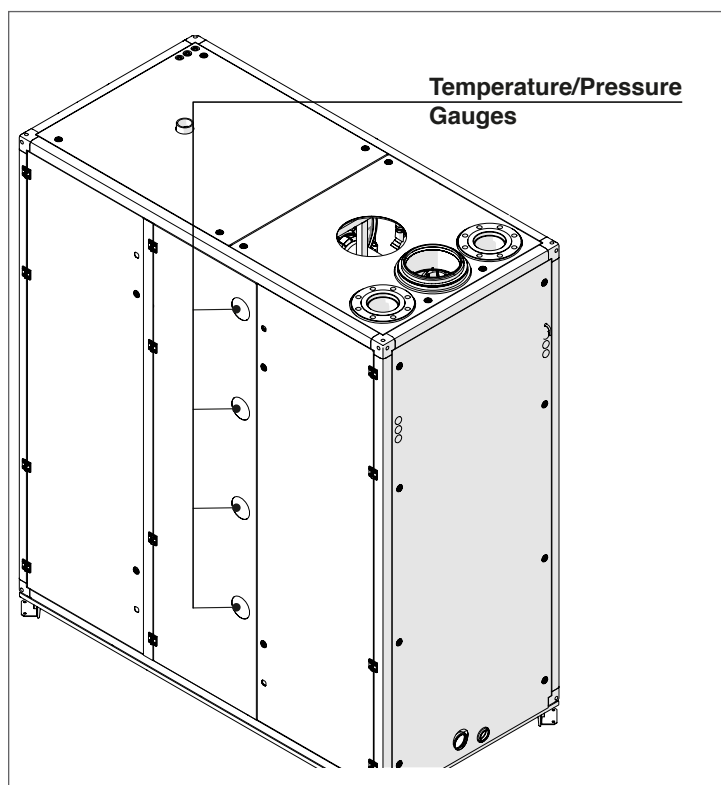

Fig. 53 Temperature/Pressure Gauge location
- Open the fill valve and proceed to fill the heating system and boiler until the pressure gauge (shown on Fig. 53), reads the pressure for which the heating system is sized. The heating system water pressure must be higher than 7.5 PSI.
If the pressure inside the heating circuit falls below the minimum pressure for the system (7.5 PSI), the appliance switches off and the 905PB inner display shows "Low water pressure" to indicate that it is necessary to restore the correct pressure. Open the filling valve and check the pressure on the temperature/pressure gauge of Fig. 53.